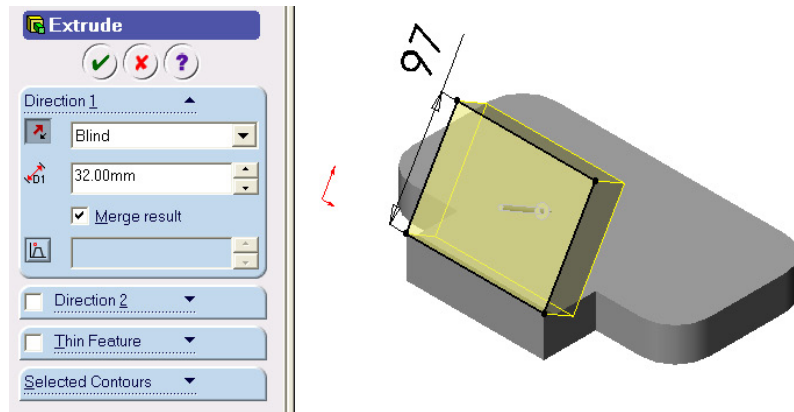

Figure 10 Slot Body extrusion parameters
13. Type **32 mm** in the distance 1 text box as shown in Figure 10.